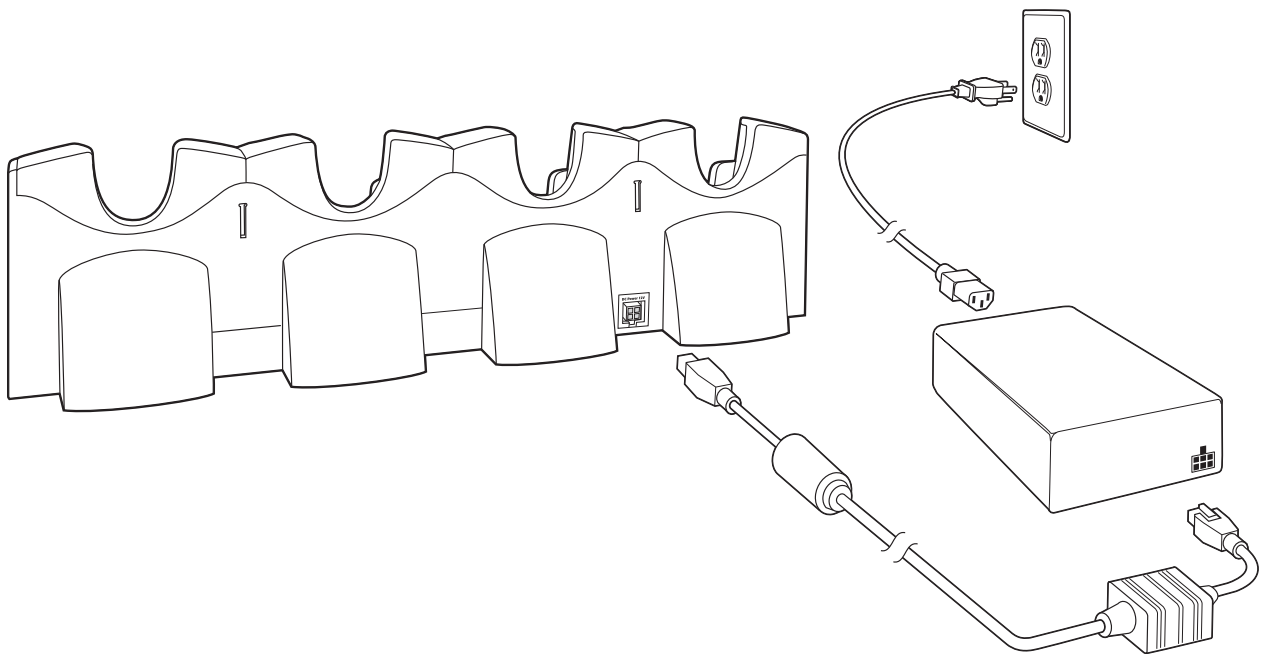

Figure 2-16 *Four Slot Charge Only Cradle Connection*
5. Connect power (see Figure 2-16 on page 2-15). The power supply should be located in the power supply well.